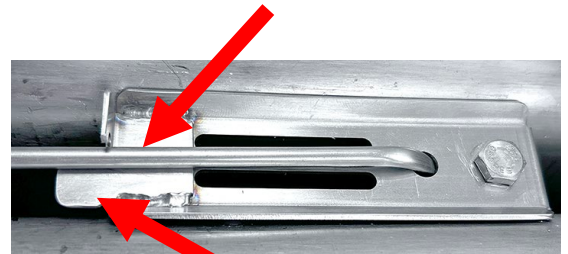

Figure 9
11. Install the probe in the bracket (see Figure 9).
12. Lift up on the tab to secure the probe (see Figure 9).